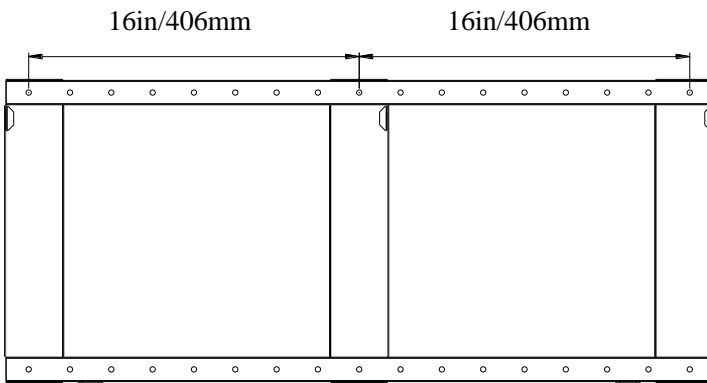

Fig. 3
2. Choose a solid plain wall and put the bracket in the position where you want to install the fireplace. Mark holes with a pen (6 for GE-50/58, 8 for GE-70/94) using the holes in the mounting bracket as a guide (Fig. 3)